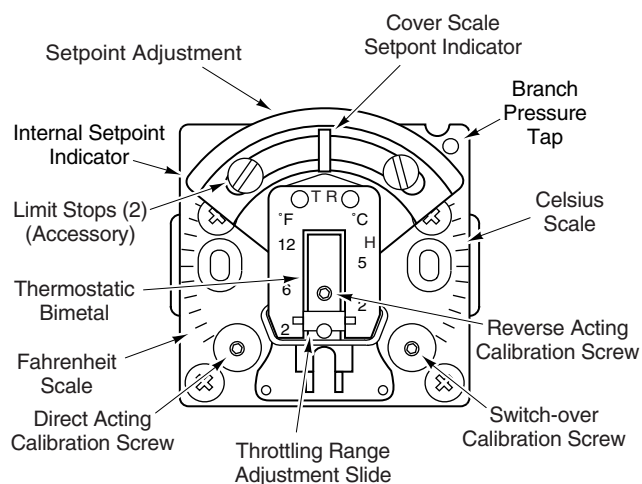
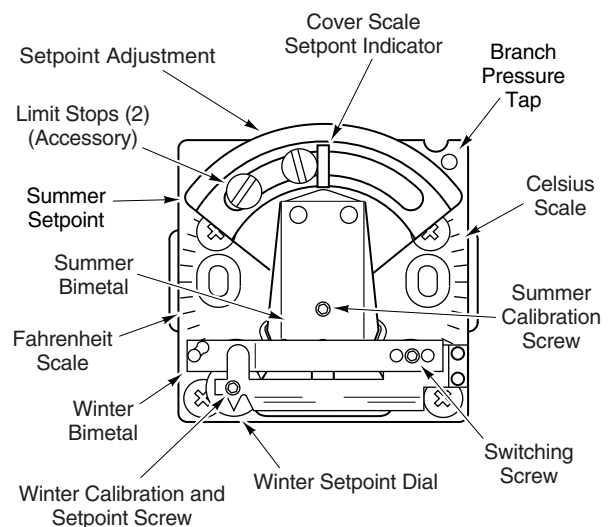

Figure-9 Single Bimetal Thermostat Calibration Features and Limit Stop Accessory.
Figure-10 Dual Bimetal Thermostat Calibration Features and Limit Stop Accessory.
1. Remove the thermostat cover and install a 22-138 branch tap gauge adaptor into the branch pressure tap hole (Figure-9).
1. Remove the thermostat cover and install a 22-138 branch tap gauge adaptor and a suitable 0 to 30 psig gauge into the branch pressure tap hole (Figure-10).
1. Position the summer setpoint cam to the measured ambient temperature (Figure-10).
The internal stop kit, model 20-712, consists of two screws and two nuts (Figure-9 and Figure-10). Install this kit as follows: